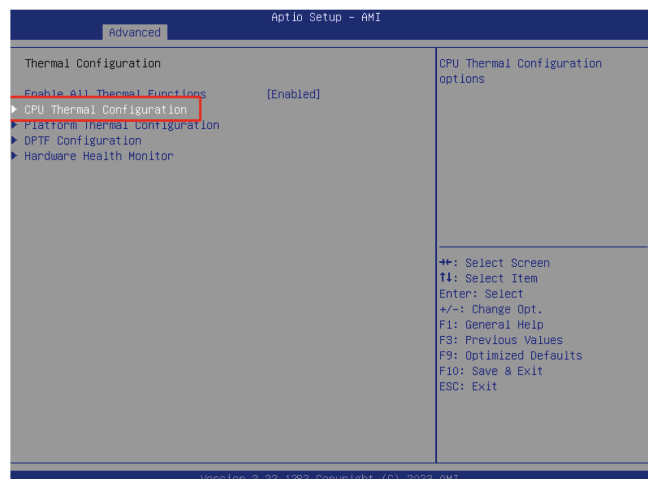

Figure 2-8-4
④ Press the ↓ key to select CPU Thermal Configuration and press Enter. Figure 2-8-4.